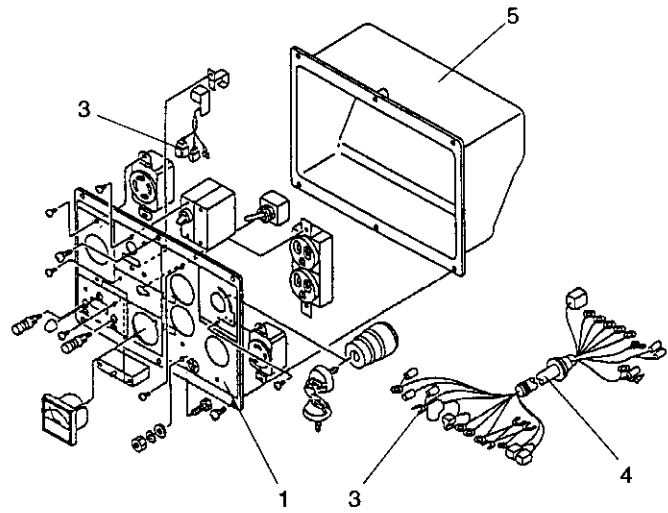

Fig. 5.2.3 Control panel unit components
- ⑤ Remove sub-frame 7.
- ⑥ Remove damper 8.
- Fig. 5.2.3 illustrates the scope of work and parts configuration.